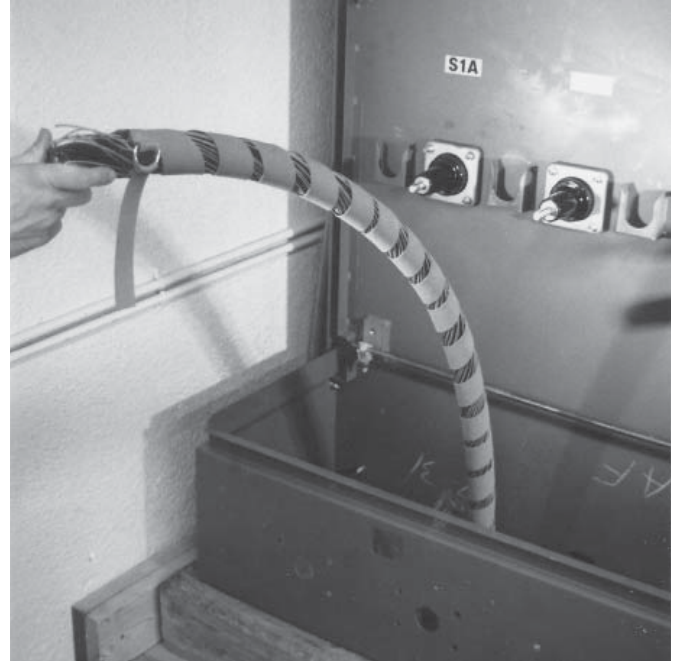

Figure 2.
- Wrap the Cable Training Tool around the cable as shown in Figure 2. Do not overlap the tape onto itself. **This may cause overheating and damage the cable or Cable Training Tool.**